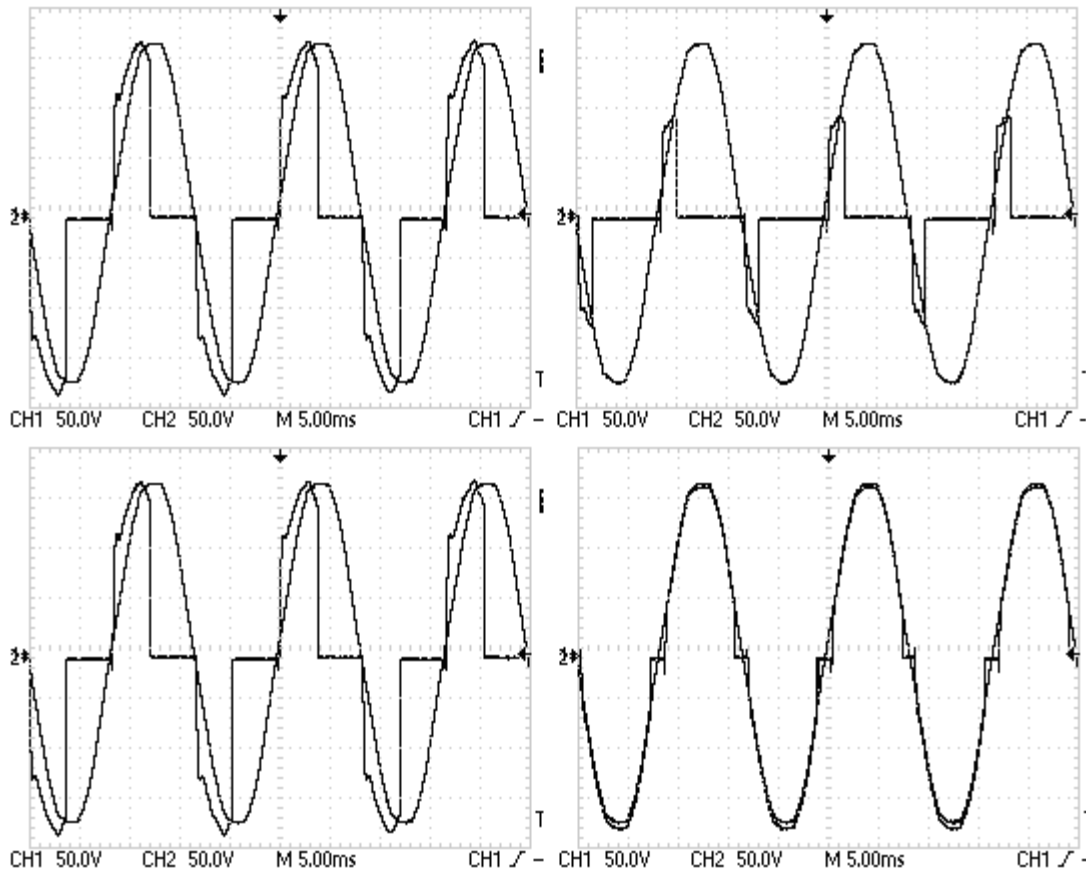

Figure 14. AC Voltage vs. TRIAC Output at Different PWM Values
7. Check the output of the TRIAC and compare it with the AC voltage. See Figure 14.